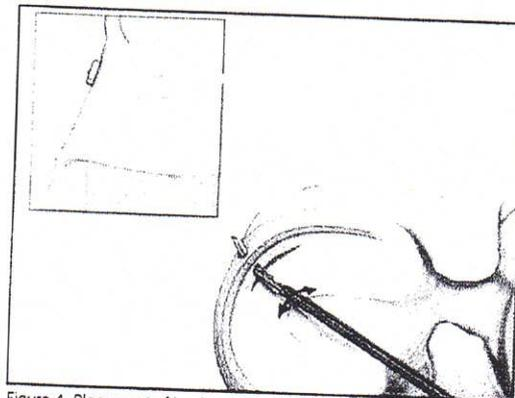

Figure 4. Placement of implant 1
- Oscillate the needle approximately 5° and pull the needle out of the meniscus, releasing T1 behind the meniscus (Figure 4).